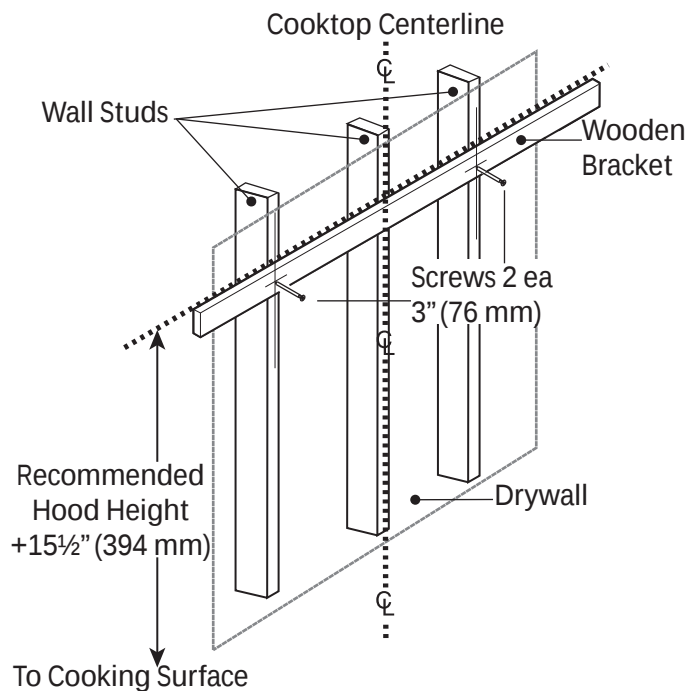

Figure 7: Mounting the Wooden Bracket
4. Locate a stud on both sides of the hood centerline to use for mounting the wooden bracket as shown in Figure 7.
7. Use (2) or (3), depending on model, 3" (76 mm) screws to attach the bracket to the wall, as shown in Figure 7. For support of longer hoods, use three studs. Countersink the screw heads to prevent interference with the hood.